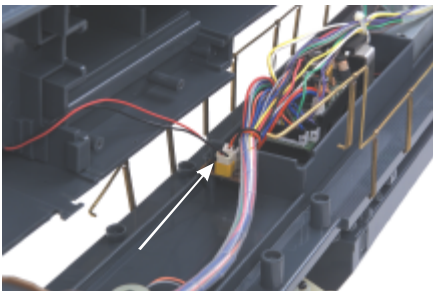

Fig. 18: Battery Charger Harness Connection
5. Once all the handrails are freed from the body around the cab and front of the locomotive, gently lift the body from the chassis to expose the light and smoke unit harnesses. There are two wire harnesses that connect lights inside the locomotive body that must be removed before the body can be completely separated from the chassis as seen in Figure 18 and 19.